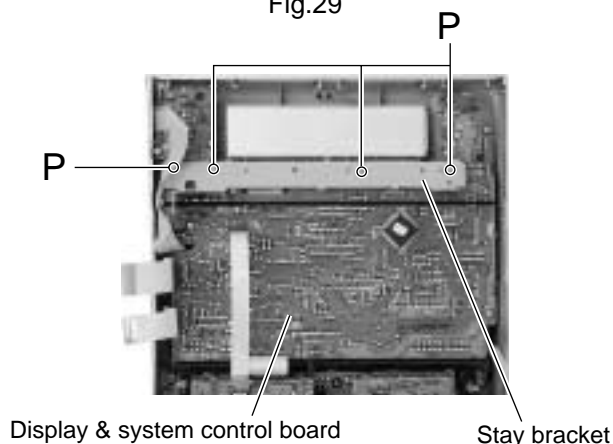

Fig.30
■ Removing the display & system control board (See Fig.30 to 32)